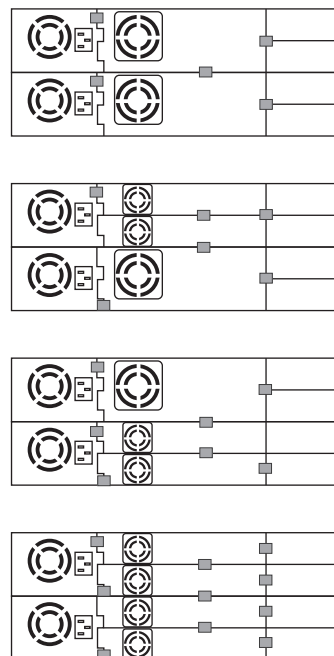

Figure 144. Diagrams for applying conductive tape for ESD protection to the back of a drive sled installed in a 2U or 4U library
5. If present, remove the conductive tape from the drive sled (refer to Figure 144 on page 184).
6. If you are installing a drive sled without ESD springs (see Figure 139 on page 181), apply conductive tape to the sled as shown in Figure 144.
4. If you are installing a drive sled without ESD springs (see Figure 139 on page 181), apply conductive tape to the sled as shown in Figure 144 on page 184.